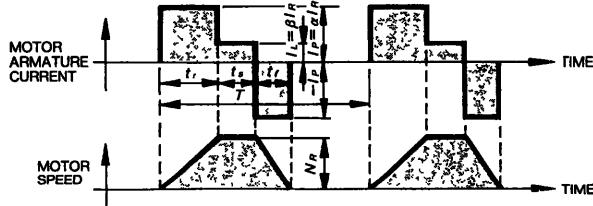

Fig. 4.3 Timing Chart of Motor Armature Current and Speed
- When the motor repeats rated-speed operation and being at standstill (Fig 4.3)